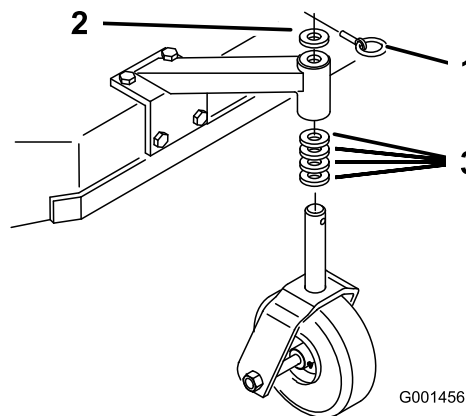

Figure 21
1. Using the Height-of-Cut Chart (page 24), adjust the caster spacers to match with the axle hole selected (Figure 21).
2. Remove the latch pin, slide the caster from the support, and change the spacers (Figure 21).
3. Install the caster in the support and insert the latch pin (Figure 21).